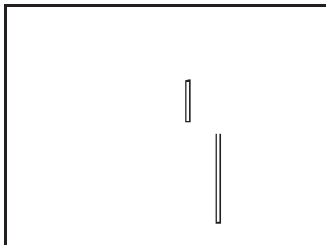

Figure 7b
9. Install the second axle spacer (3) then the second wheel (1) with the extended hub facing inward. See Figure 7b.